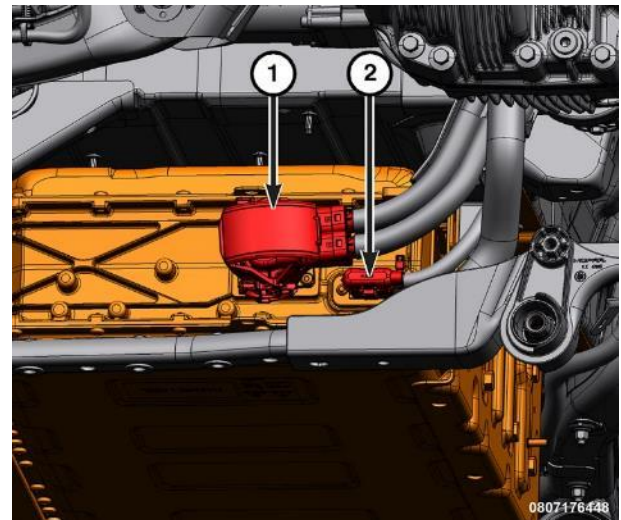

Figure 49 – HV Battery - Primary
34. Disconnect and install protective covers on the HV cable connector and the LV wire harness connector at the rear of the battery (Figure 49).
57. Connect the HV cable connector and the LV wire harness connector at the rear of the primary battery (Figure 49).